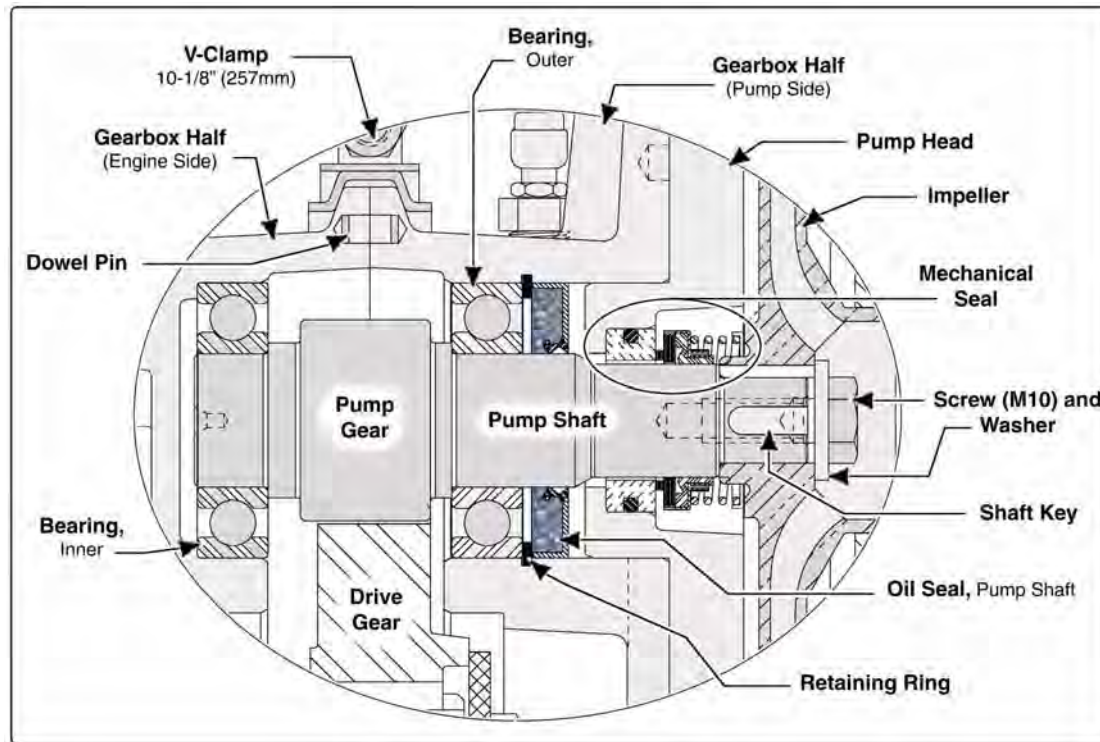

Figure 7b-3: Pump Shaft Assembly
4. Lightly tap the seal around the edges to ensure an “even” seat. Apply a coating of general purpose grease to the oil seal to ease installation. (See Figure 7b-3: “Pump Shaft Assembly.”)
5. Install the engine / drive shaft spacer to the drive shaft, then slide the the gearbox housing (engine side), with new oil seal, over the shaft and onto the engine face, being careful not to damage the new oil seal. (See Figure 7b-2: “Engine / Drive Shaft Assembly” on page 83.)